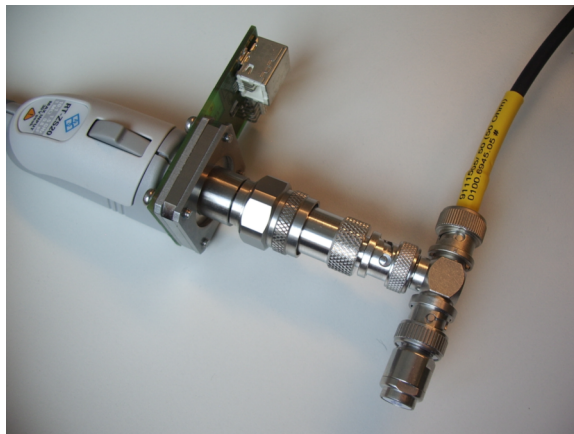

Figure 1-12: DC characteristics test setup, probe box adapter
- ▶ Terminate the probe box adapter with the N to BNC adapter, BNC T connector and BNC termination, see Figure 1-12: DC characteristics test setup, probe box adapter